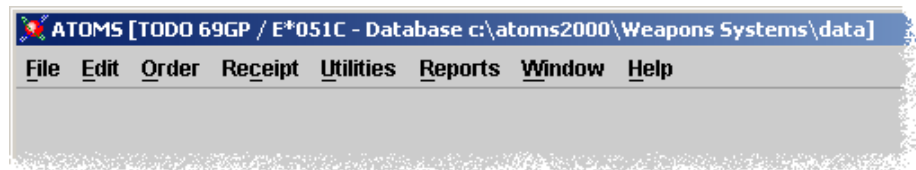

Figure 4-35. Title Bar With New TODO Account Visible
- 8) Click **OK** to accept the Preferences. Note that the title bar (Figure 4-35) contains the (new) TODO code and JCALS Account Number, and that the path name contains the File Name given in step 3 above.
- 4) Click **OK** to close the Preferences window. Note that the title bar (Figure 4-35) contains the selected TODO code and JCALS Account Number, and that the path name contains the name of the *ini* file given in step 2.